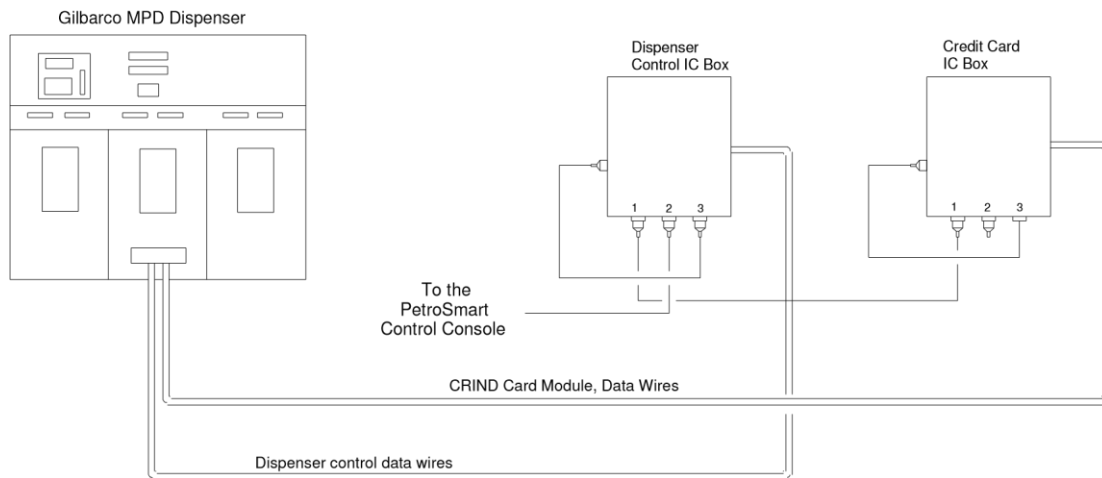

Fig. 1, PetroSmart Data Wire Diagram
4. **Connecting the Console to the Dispenser IC BOX** - Connect the data cable from the “PUMP CONTROL” connector on the PETROSMART EZ console to the connector marked (#3) on the dispenser interconnect box. Refer to Fig. 1.
5. **Connecting the Dispenser IC Box to the CRIND CREDIT CARD MODULE IC Box** - Connect the data cable from the(#1) connector on the Dispenser IC Box to the (#1) connector on the CRIND CREDIT CARD MODULE IC box. Refer to Fig. 1.